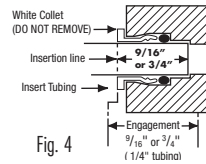

Fig. 4
6. If tubing does not remain secure in fitting, remove tubing, re-cut the end, measure, mark, and re-insert. Tubing must be fully inserted to avoid leaks. See Fig 4. (To remove tubing: depress and hold white collet; pull tubing out).